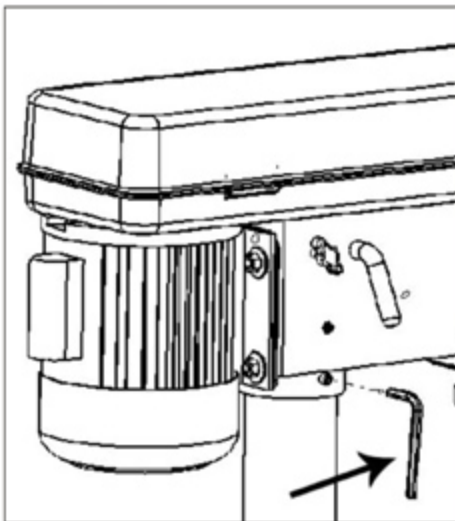

Figure 7
- 5.2. Using the hex wrench, tighten the head lock set screws. **See Figure 7**